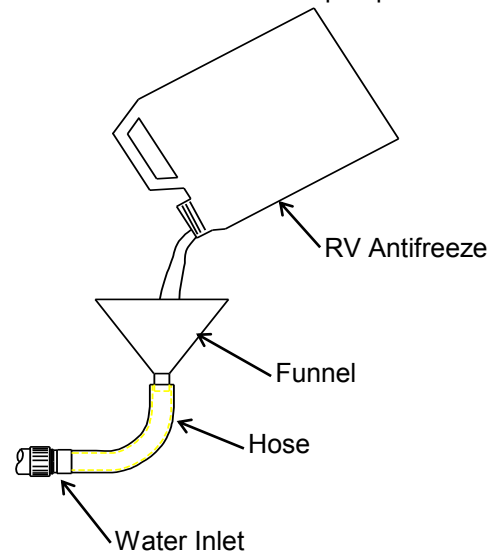

Figure 14
4. Attach the 12" garden hose piece with the funnel to the pump inlet (Figure 14).